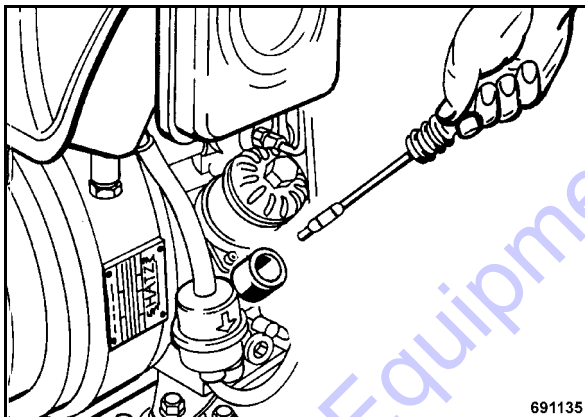

Fig. 61
- Pull the dipstick (Fig. 61) out.